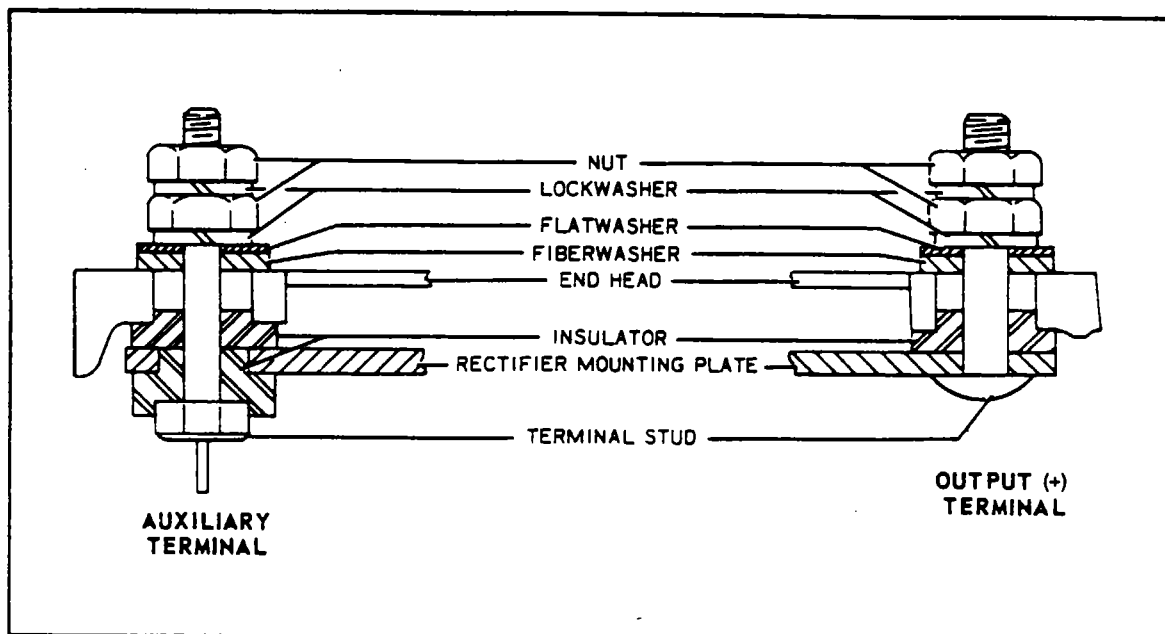

Figure 11-31. Terminal Assembly
- c. Reassemble the rectifier mounting plate studs and insulators, making sure they are in the correct order. (Refer to Figure 11-31.)